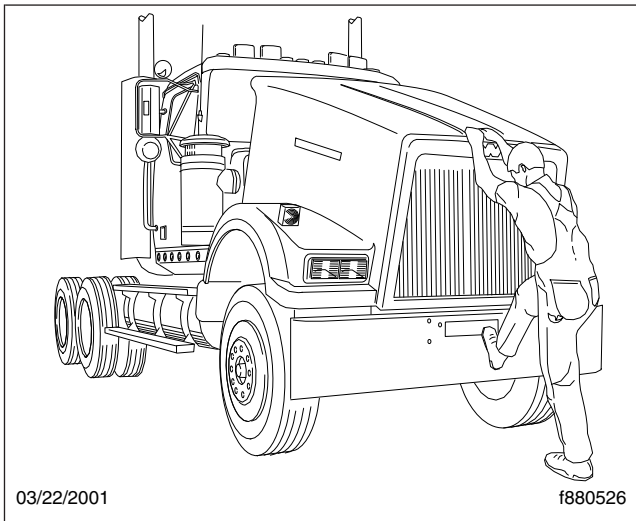

Fig. 2.9, Hood Opening and Closing
2. Using the bumper step for leverage, slowly tilt the hood with both hands on the grab handle. See Fig. 2.9.
2. As the hood goes over center, put one foot on the bumper step and slowly lower the hood with both hands on the grab handle. See Fig. 2.9.